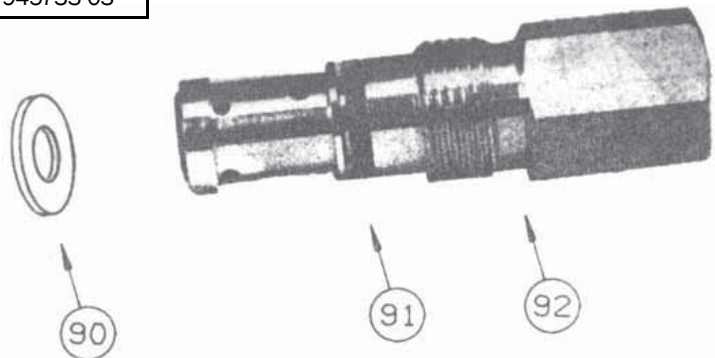

Figure 8A - New Style Relief Valve (after 9/95)
**Relief Valve Parts (see Fig. 8A)**